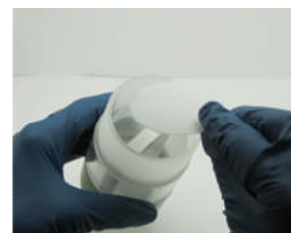

Figure 14
1.9. Replace bottom porous plug (Figures 14 & 15)